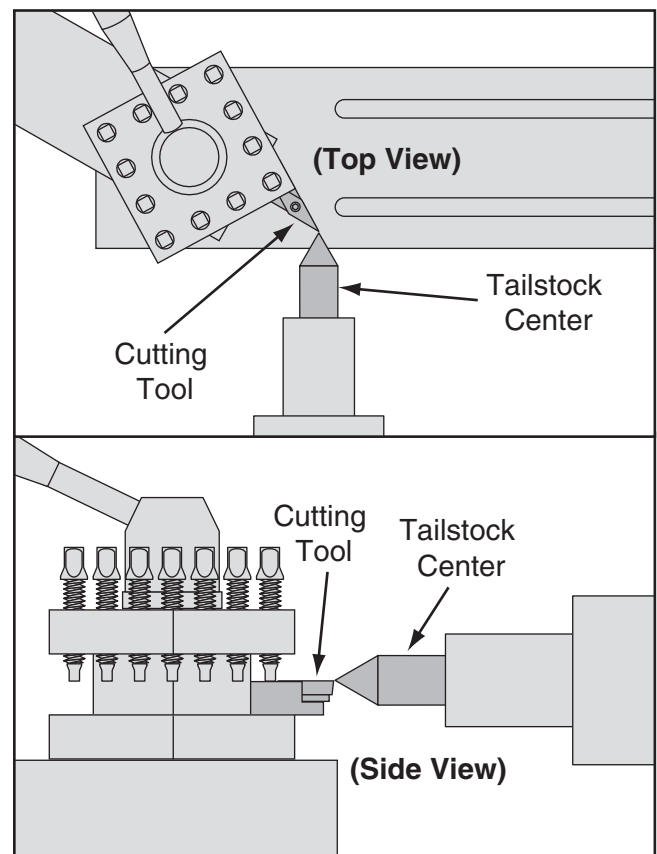

Figure 64. Cutting tool aligned to the tailstock center.
4. Adjust the height of the cutting tool so that the tool tip is aligned vertically and horizontally with the center tip, as shown in **Figure 64**.